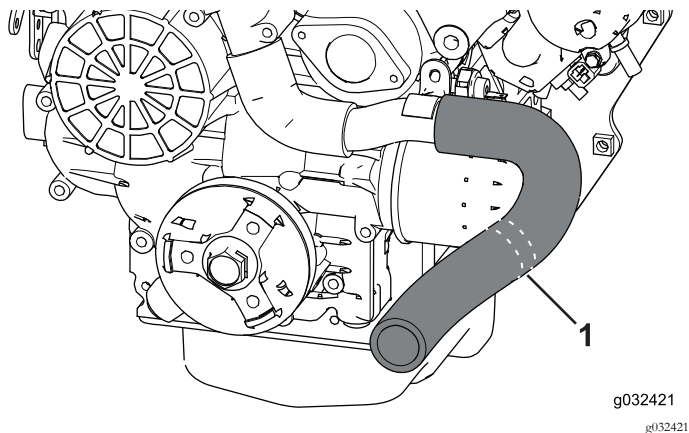

Figure 20
1. Locate and remove the radiator hose (Figure 20).
2. Use a cutting tool to cut the radiator hose at the cut lines (Figure 20).